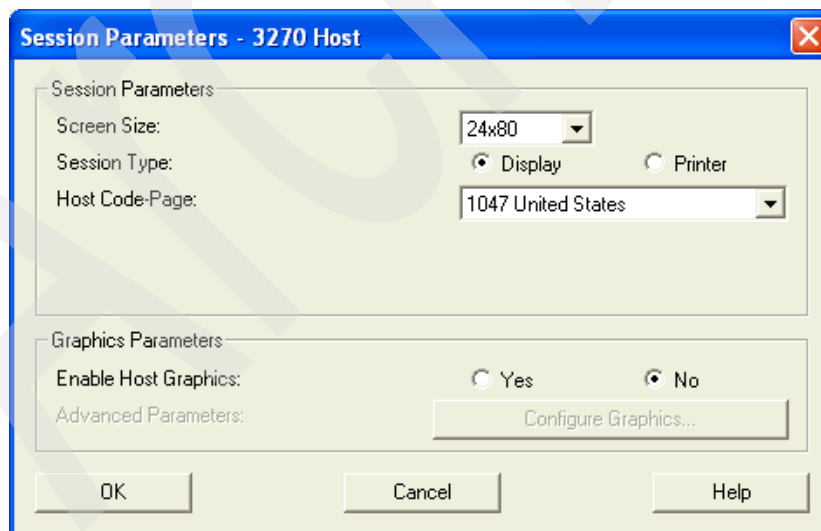

Figure E-3 PCOMM session parameters
6. The Session Parameters panel is displayed (Figure E-3) with the following options defined: